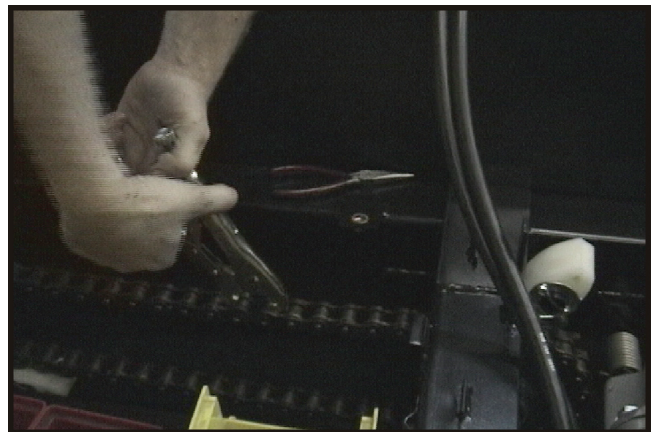

Figure 7-4. Holding chain together to insert connecting link
1. Feed the chain around each sprocket and clamp the free end with a modified vice grip (ODG part # 658-08). Figure 7-4.